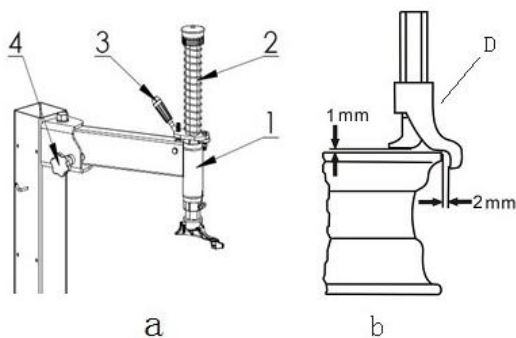

Fig.16
- Pull back swing arm and adjust swing arm 1 , (as fig.16-a) and vertical column (2) , make mounting head against rim , adjust handle 4, lock swing arm ,lock vertical column by handle 3. Make sure mounting head keep a distance of 1-2mm from outer edge of rim to avoid mounting head scratch rim ( as fig.16-b).